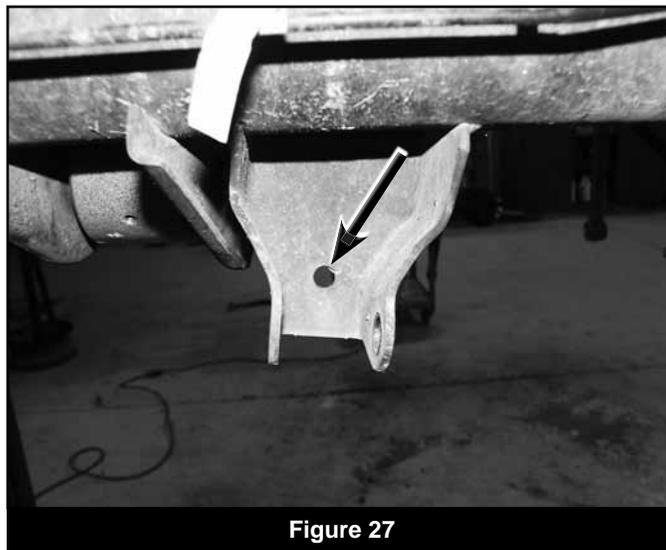

Figure 27
34. Locate the existing hole in the lower rear shock mounts (Fig 27). Drill the hole out to 7/16".